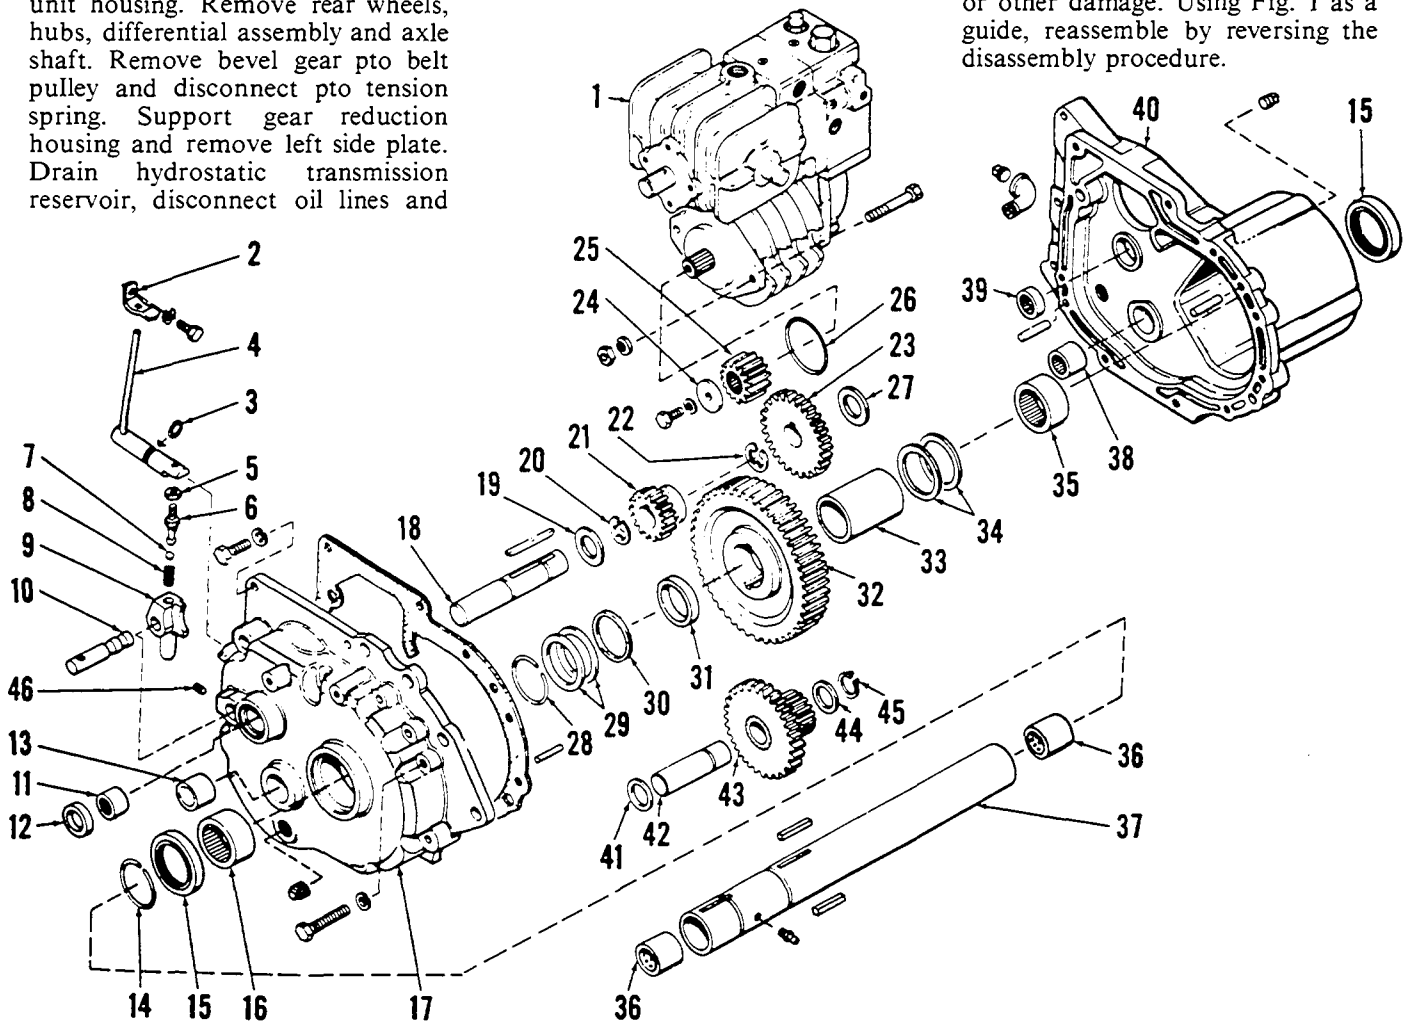

Fig. 1—Exploded view of gear reduction unit used on models equipped with a hydrostatic transmission.
keyed end of axle tube (37—Fig. 1). Unbolt and remove cover (40) from case (17). Remove washer (27) and first reduction gear (23). Remove snap ring (14), then withdraw output gear and axle tube assembly (28 thru 37). Remove second reduction gear and shaft assembly (41 thru 45). Loosen set screw (46) and remove as a unit, the shift fork and rail assembly (7 thru 10) and the brake shaft assembly (18 thru 22). Use caution when removing shift rail (10) from shift fork (9) as poppet ball and spring (7 and 8) will be released. Loosen locknut (5), remove shifter stem (6) and withdraw shift lever (4). Oil seals and needle bearings can now be removed from case and cover as required.
Clean and inspect all parts and renew any showing excessive wear or other damage. Using Fig. 1 as a guide, reassemble by reversing the disassembly procedure.